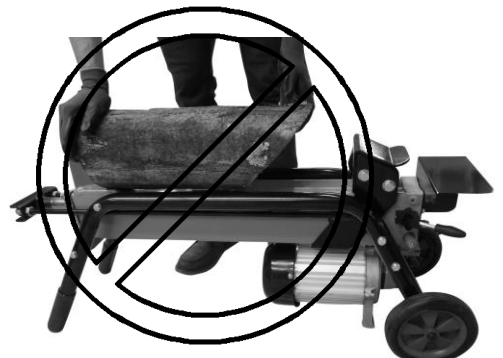

Figure 9
- Make sure both ends of the log you are splitting are cut as square as possible. This will prevent the log from sliding out of position while under pressure (**Figure 9**).